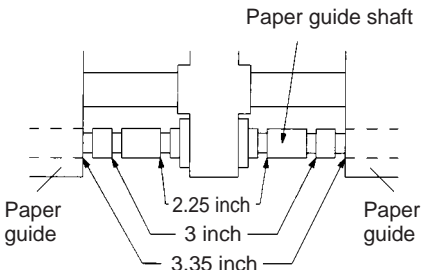

Fig. 2-8 Roll paper guide (SP347)
- ⑤ Set the left and right paper guides. Leave a 0.5 mm gap between the paper guide and the edge of the paper and fix the lock lever.
- When you insert the stop ring that corresponds to the groove of the paper guide shaft shown in Fig. 2-8, that will be the position when you set the paper guide.